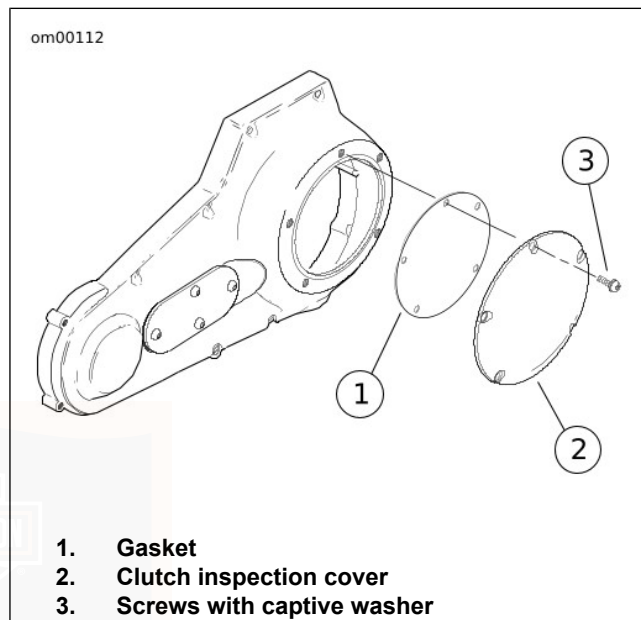

Figure 55. Clutch Cover
3. See Figure 55. Using a T27 TORX drive head, remove five screws (3) (with captive washers) to free clutch inspection cover (2) from primary chaincase cover.
2. See Figure 55. Using a T27 TORX drive head, remove five screws (3) (with captive washers) to free clutch inspection cover (2) from primary chaincase cover.